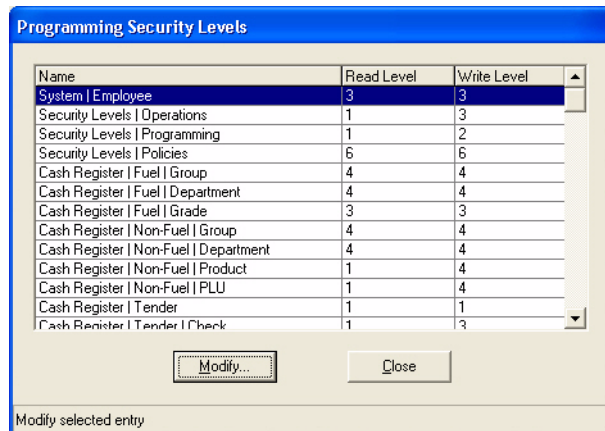

Figure 6-6 Programming Security Levels Window
1. From the Programming Access window select **Security > Programming**. The Programming Security Levels window opens as shown below in Figure 6-6.